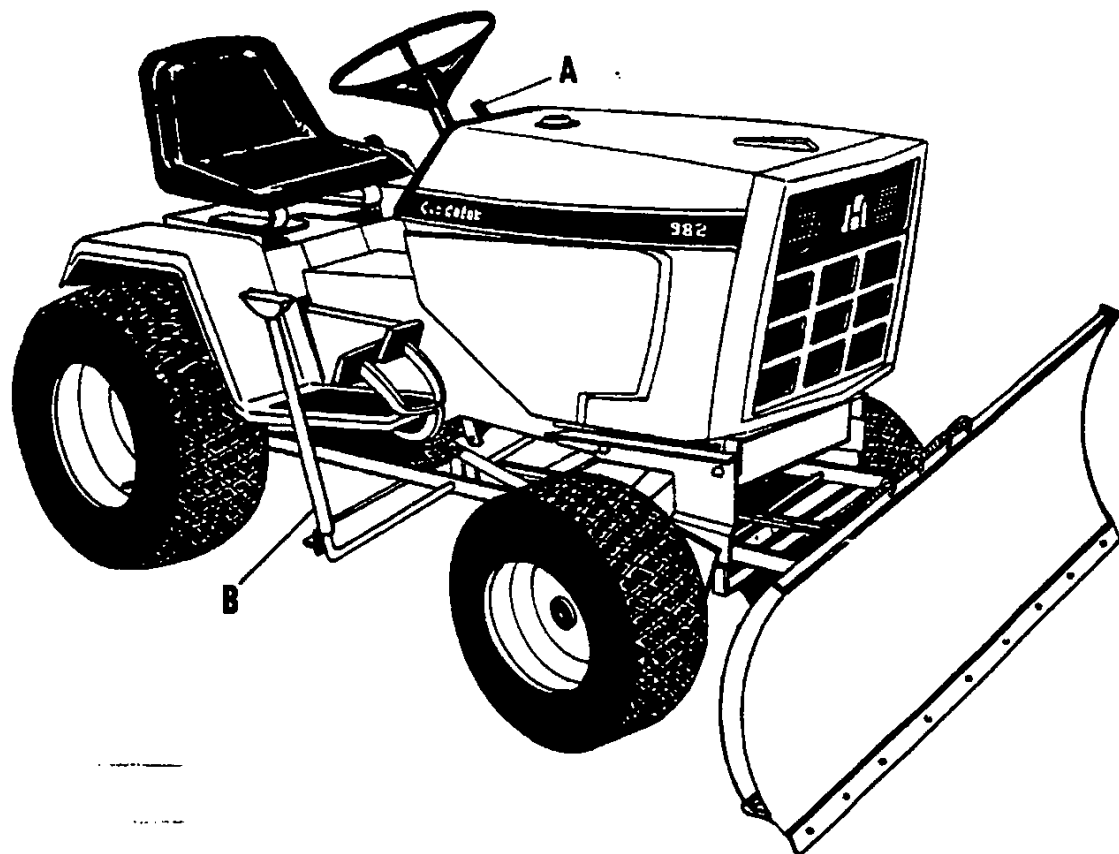

FIG. 15
Lift control lever (A) to raise and lower dozer blade is located on left hand side of tractor dash. (See Fig. 15)
The front pivot rod (H) is adjusted to the proper length when "A" frame assy. (A) will hit both stops (X) by movement of pivot control handle (K). (See Fig. 15)